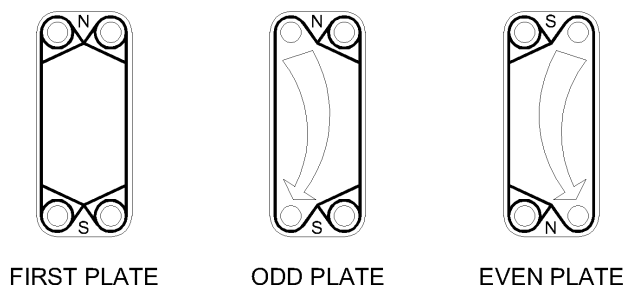

Figure 1.7 - Models Same-Side Flow
- ODD and EVEN plates control the orientation of flow of the fluids in the exchanger (See figures 1.7 and 1.8 for details.)
Model-Same Side Flow: ODD and EVEN plates are physically identical, thus could be interchangeable by hanging in opposite direction. (See figure 1.7 below.)